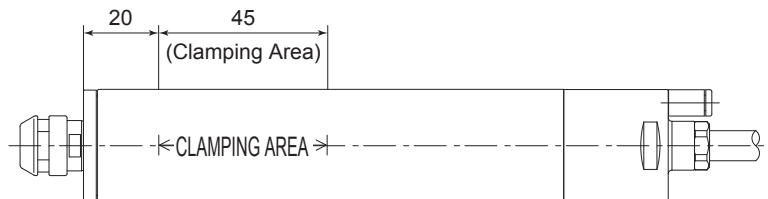

Fig. 13
- ① When mounting a Motor Spindle, refer to the Clamping Area etched on the Motor Spindle (Fig. 13).